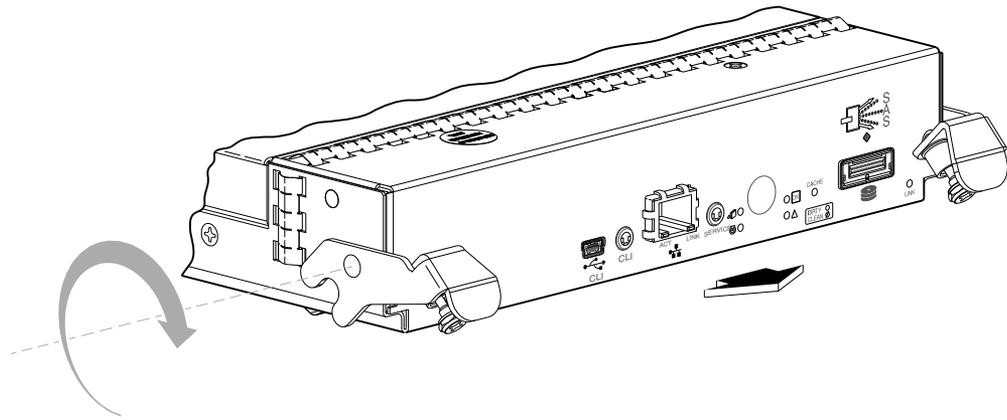

Figure 11 Extracting a controller module
5. Press both latches downward to disconnect the controller module from the midplane (see Figure 11 on page 27).